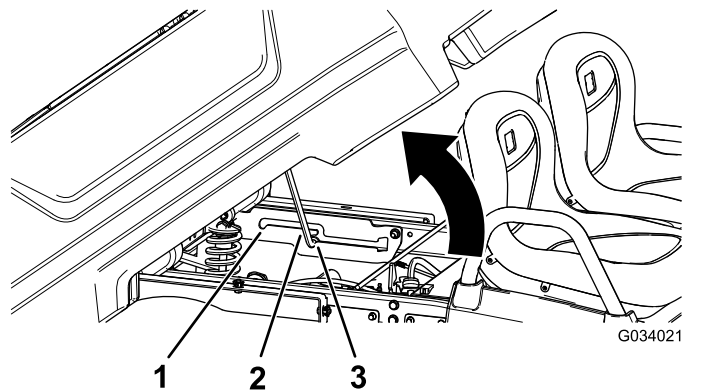

Figure 16
2. Pull the prop rod into the dump position detent slot to secure the bed for dumping (Figure 16).
2. Pull prop rod into the service position detent slot to secure the bed for maintenance (Figure 16).
2. Pull the prop rod out of the detent slot (Figure 16).